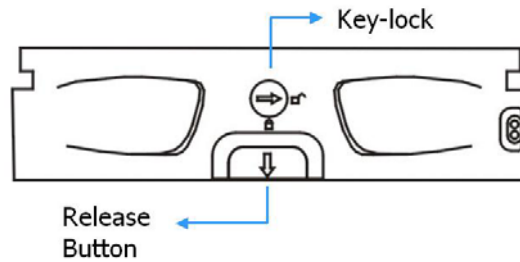

Figure 2-5: Front View of an Individual Drive Tray
- Step 1. Make sure that the hard drive is secured to the drive tray. **Make sure the key-lock is in the unlocked position.** The key-lock is unlocked if the groove on its face is in a horizontal orientation. If the groove is in a vertical position, as shown in **Figure 2-5**, then the key-lock is locked and the front flap on the drive tray cannot be opened.